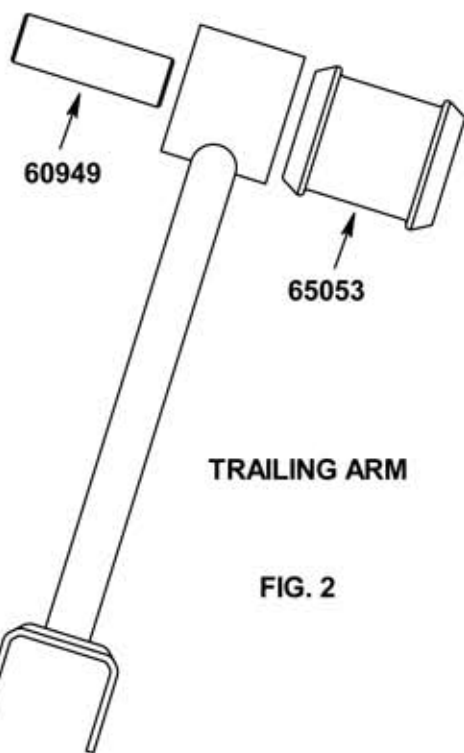

FIG. 2
- 4) Starting with the trailing arm, press the new polyurethane bushing 65053 into the arm using plenty of Prothane™ Super Grease. Bushing must be pressed in using an arbor press or bench vise. (See Fig. 2)